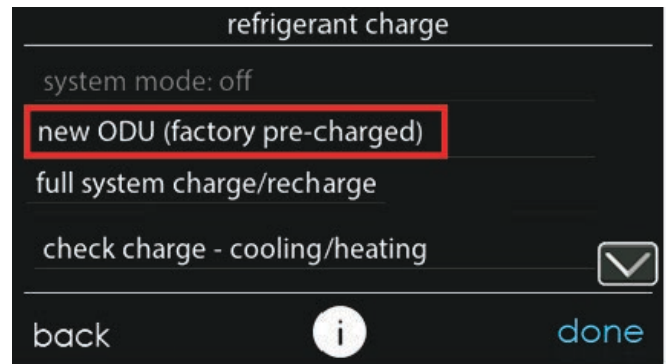

Fig. 14 – Refrigerant Charge Mode Selection
6. For new installations, select "new ODU (factory pre-charged)" from the refrigerant charge screen to begin charging the system (Fig. 14). For applications where there is no charge in the ODU, select "full system charge/recharge".